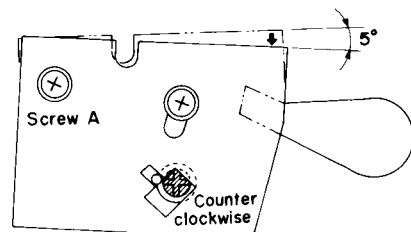

Figure 26
- (6) Turn the Phono PCB Assembly clockwise by approximately 5° with the screw A as a center (Figure 26).